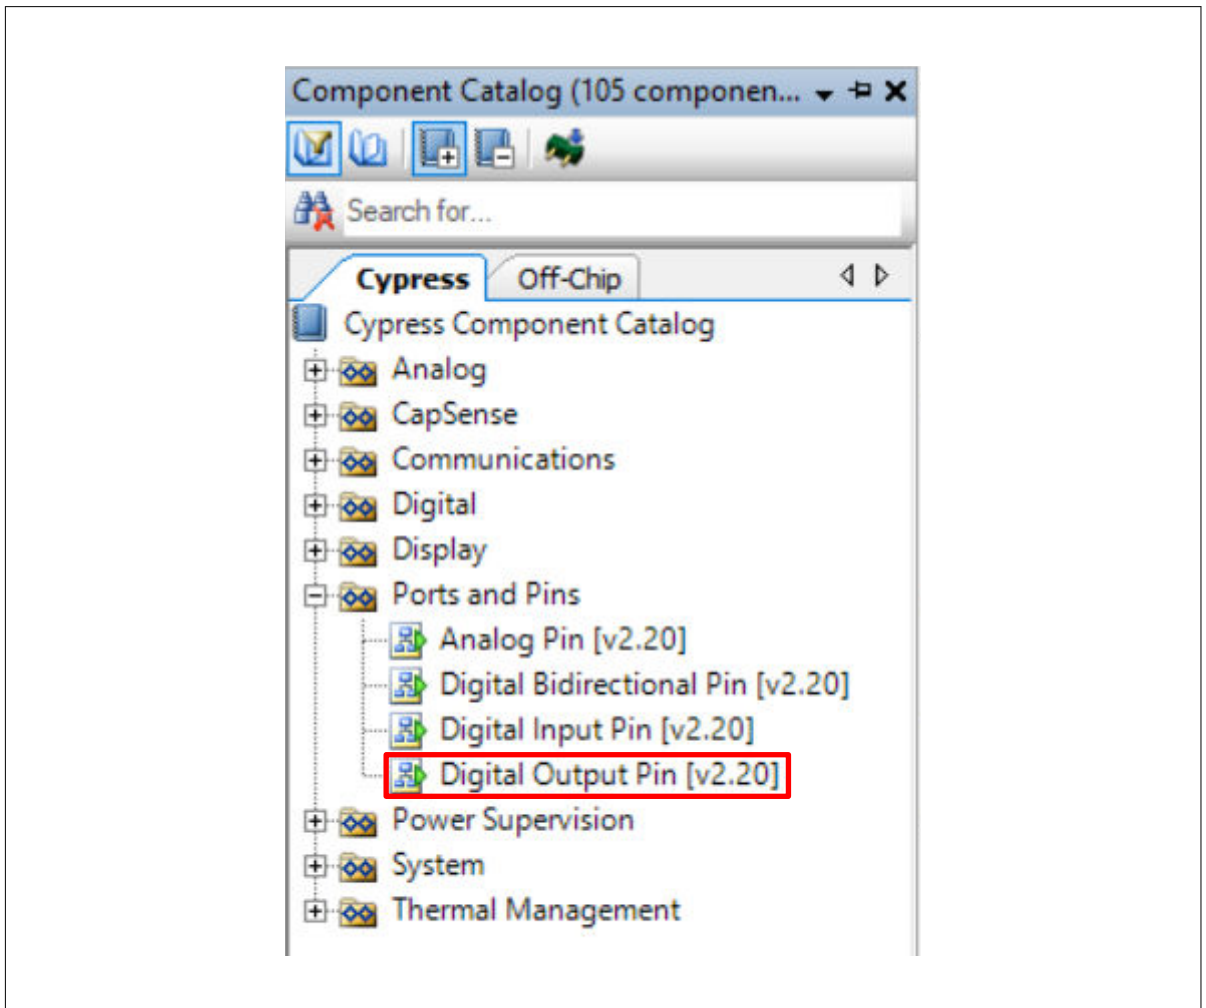
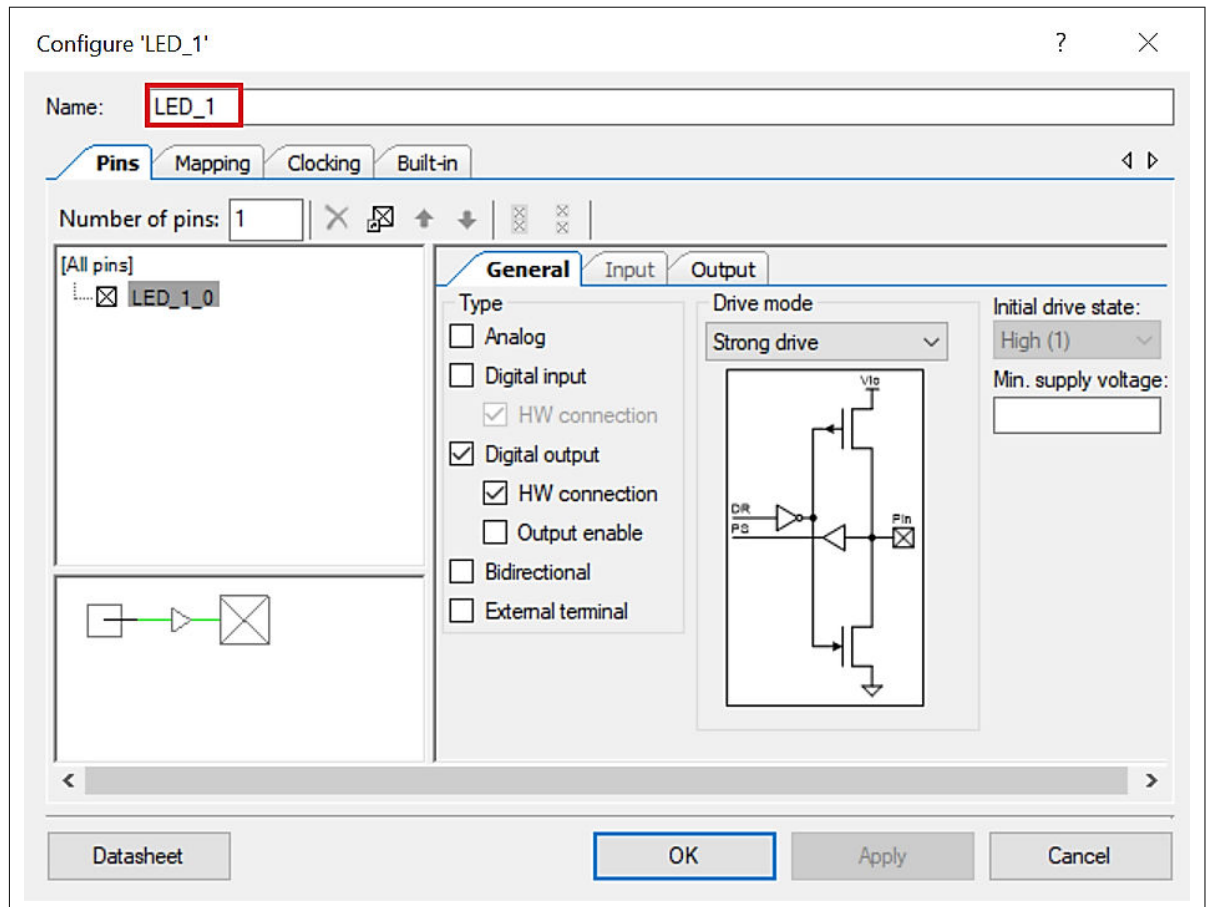

Figure 42 **Location of the digital output pin Component**
Figure 43 Renaming a pin Component
9. Drag and drop a **Digital Output Pin** Component. Change the name to LED_1 as shown in Figure 42 and Figure 43. Add another Digital Output Pin Component and change its name to LED_2.